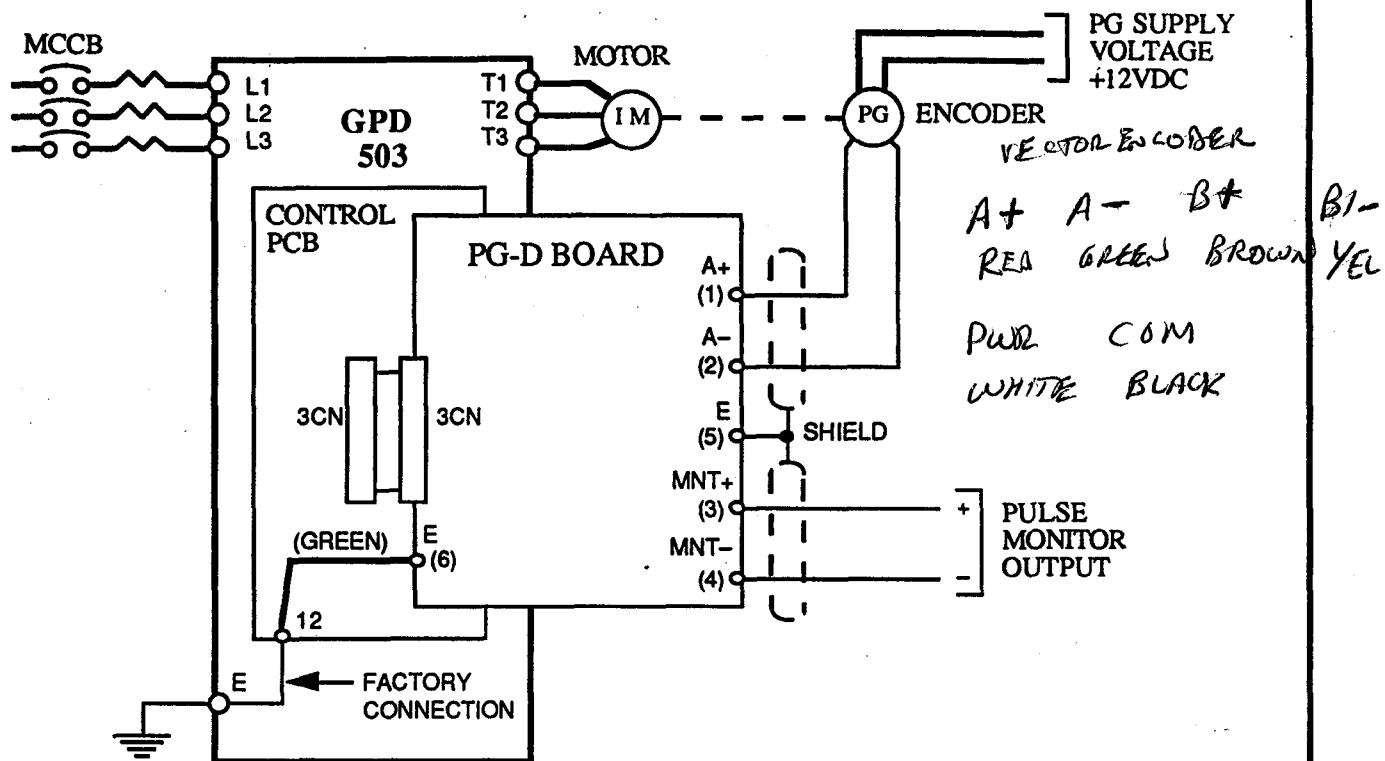

Figure 3. Interconnection for PG-D Circuit
7. **Wiring.** See Figure 3. Wire encoder input and (if desired) pulse generator output at PG-D terminals. See Table 1 for terminal functions.